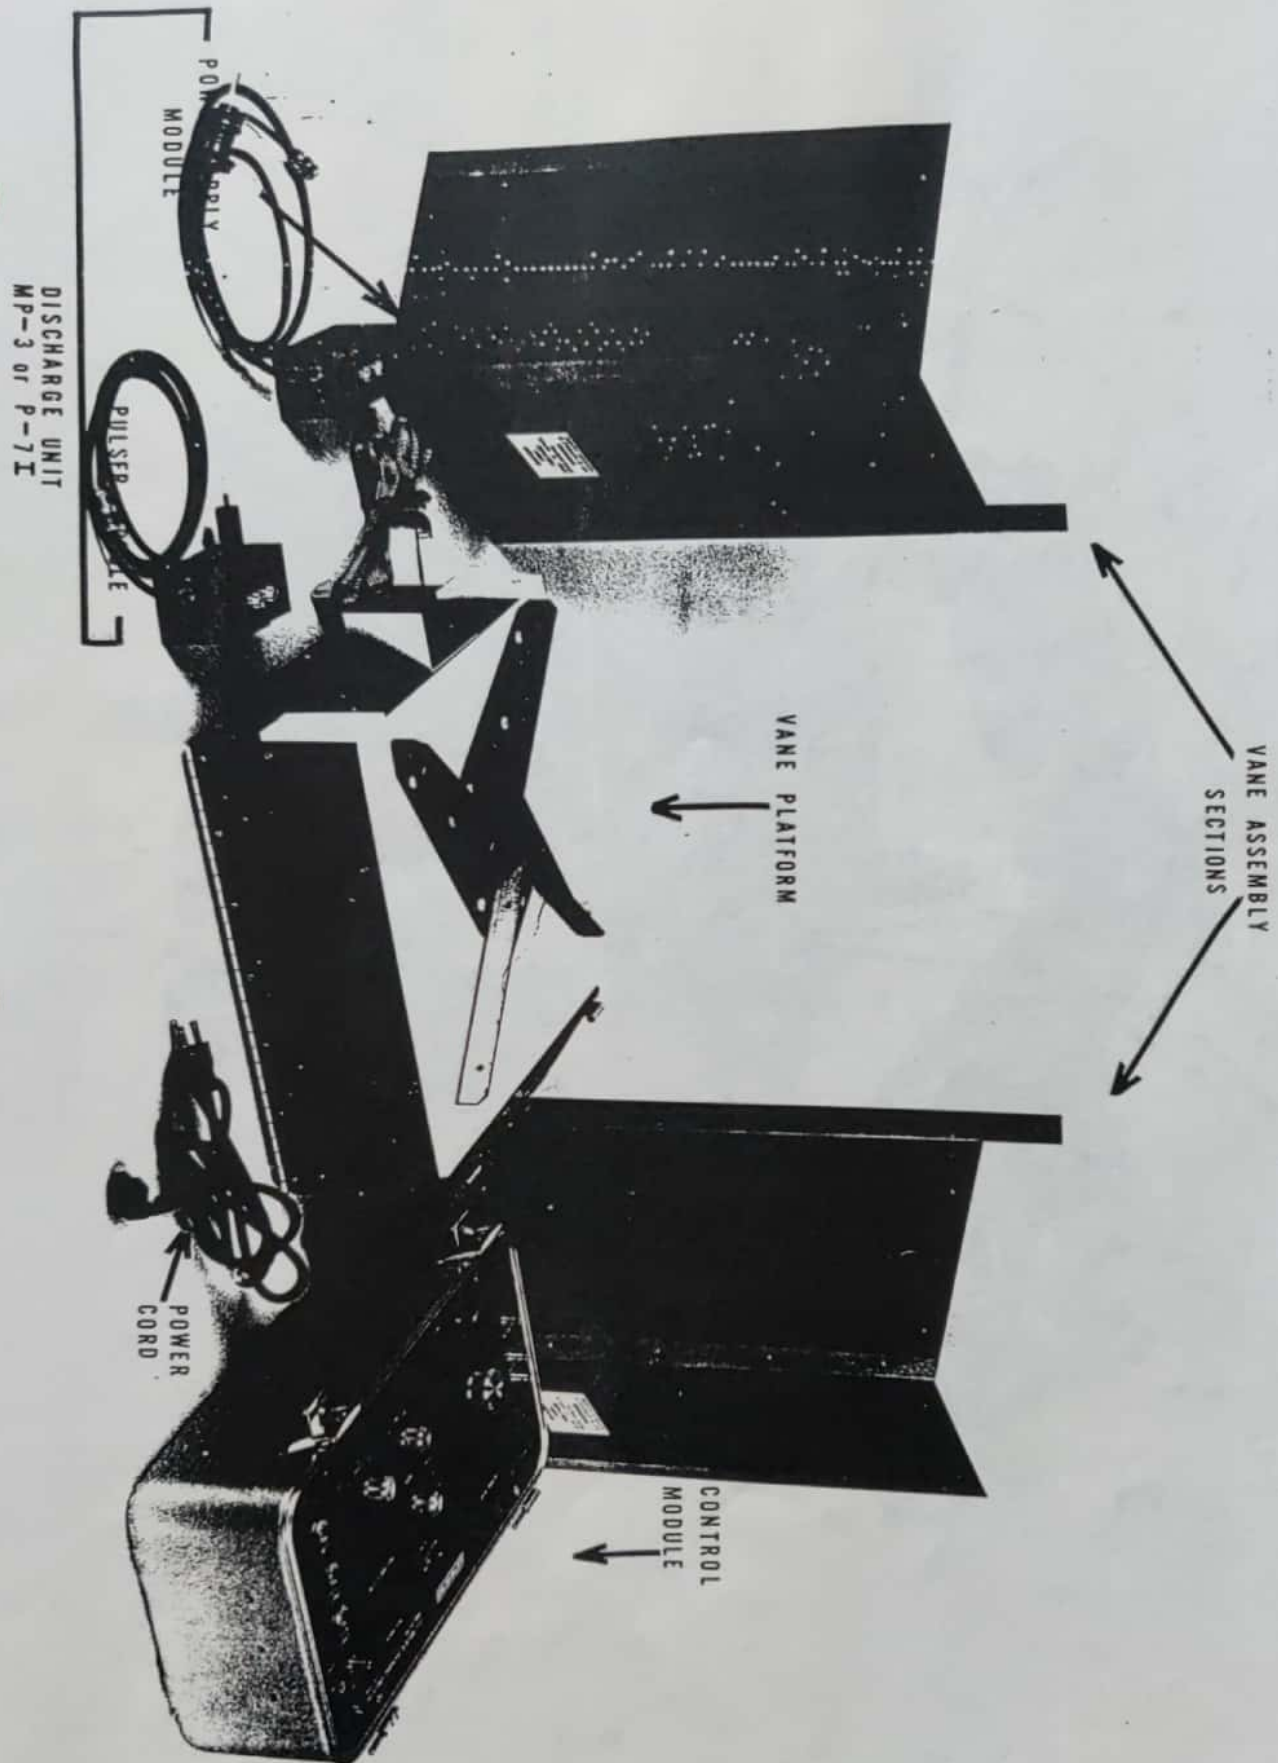

FIGURE B.1
- NOTE: 1. Figures B.1 thru B.5 illustrate the basic arrangement, components, and setup of the EDS-300.
Figure B.1 shows the components which comprise the EDS-300 Electrostatic Discharge Simulator: Control Module, Vane Platform, Vane Assembly sections, Discharge Unit, and power cord.